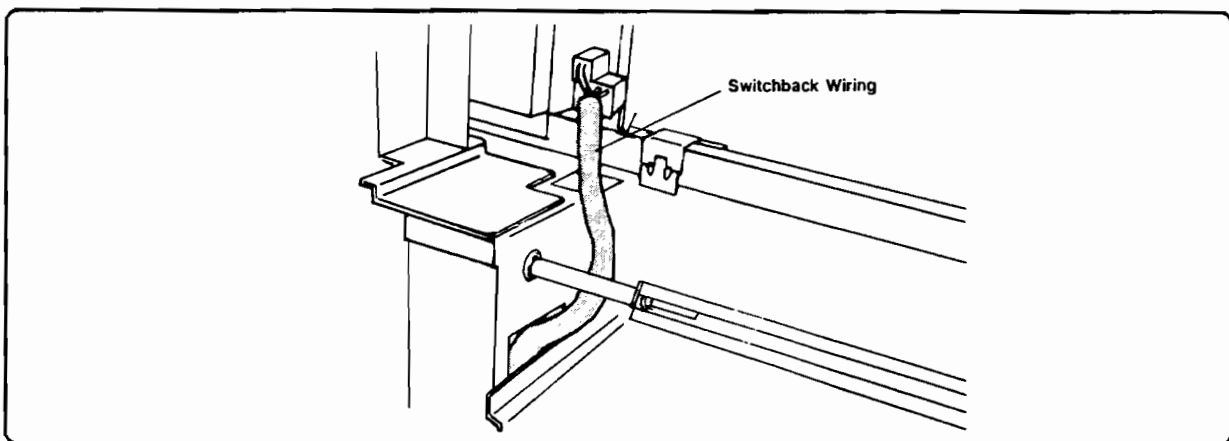

Figure 6-117. Routing the Switchback Wiring
9. Unplug the two upper switchback connectors (at rear of the fuser rollers - Figure 6-117).
5. Route the switchback wiring harness down so that the lower connector is near the Duplex Drive Motor and the upper two connectors are near their connectors to the upper left of the assembly (Figure 6-117).